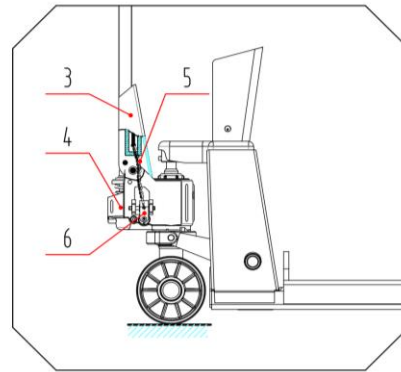
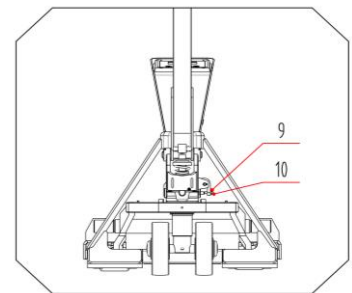

Fig. 2
Fig. 5
- 2.1.3 Turn the pin shaft 2 so that the axis of the large hole in the middle of the pin shaft is vertical, and pass the chain 5 on the handle through the hole in the middle of the pin shaft 2. See Fig 2.
- 2.1.4 Hang the screw nut at the end of chain 5 into the groove of lever plate 6. See Fig 2 and Fig 5.
- 2.1.8 The screw 9 in Fig. 5 is used to adjust the vehicle condition. When the truck body rises and then immediately descends, turn the screw 9 a little anticlockwise and try the truck again until it rises normally. If the truck body cannot be lowered after rising, turn the screw 9 clockwise a little and try again until it can be lowered normally. The outer hexagon nut 10 at the screw 9 plays a locking role. It should be loosened before adjustment and locked after adjustment.